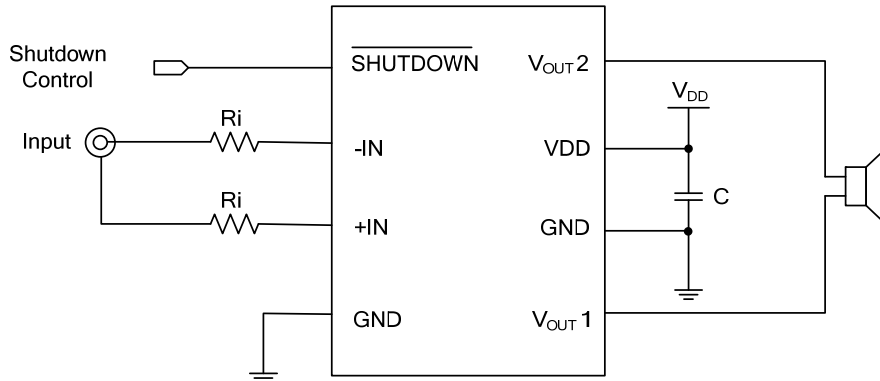

Fig. 2 Typical Audio Amplifier Application Circuit
The **M4670**'s gain is set by the external resistors R_i , shown in Fig. 2, the gain of the equation by (2) is given. When the gain of 2V/V (6dB), the THD+N performance of the best.